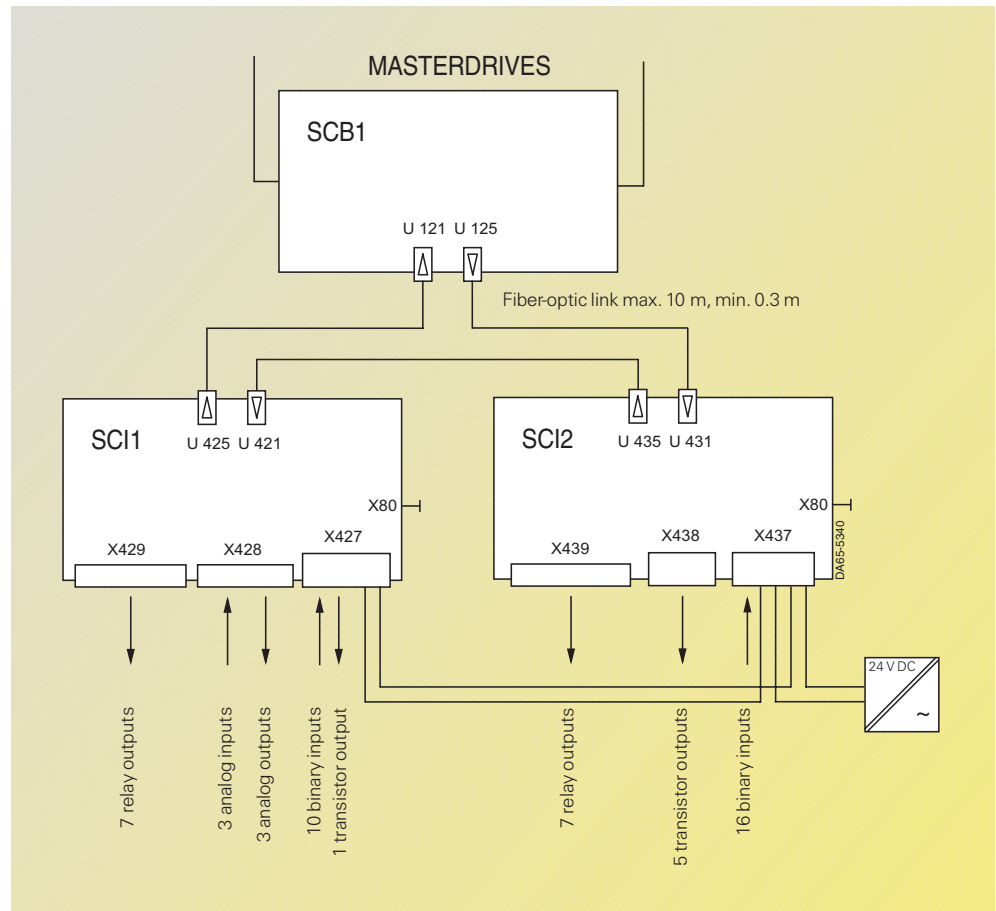

Fig. 6/66
- serial I/O system (see Fig. 6/66) in conjunction with the SCI1 and SCI2 serial interface boards (see page 6/74)
- Peer-to-peer connection between several converters via the RS485 interface (see Figs. 6/67 and 6/68)